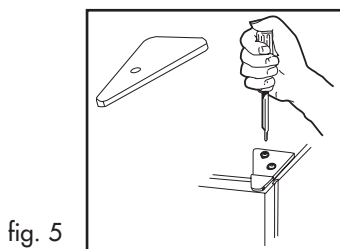

fig. 5
Reversing the Door (fig. 5 & 6)
2. Dismantle the hinge box cover on the top of the freezer door with a Phillips screwdriver and remove the 2 screws from the hinge. Take out the hinge by pulling up vertically. Put these aside. (see fig. 5)